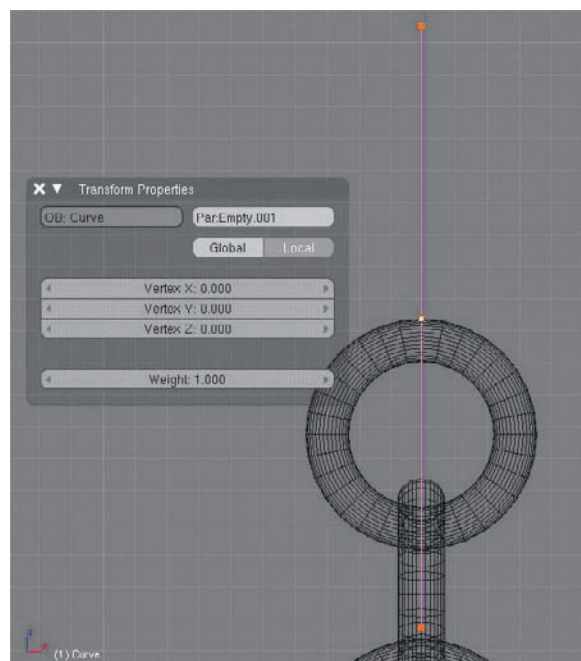

Figure 3.38 Setting the control point weight to 1
8. Curves do not support vertex groups, so a slightly different method is used to associate weights to control points. Similarly to the spring example in the previous section of this chapter, we'll fix one control point in place by associating it with a soft body goal later. To set up the weights, tab into Edit mode on the curve, select the topmost control point, and press the N key to open the Transform Properties window. Set the Weight value to 1, as shown in Figure 3.38.